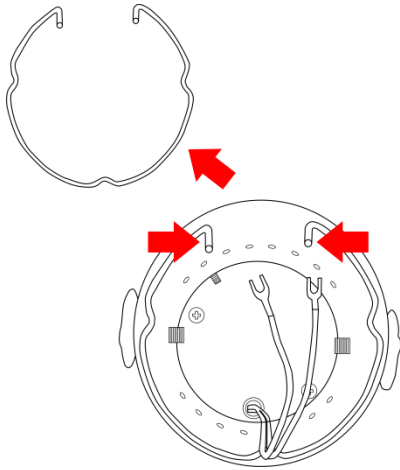

Fig. 03
- 02) Remove the fixation ring by pressing it together (Fig.03).